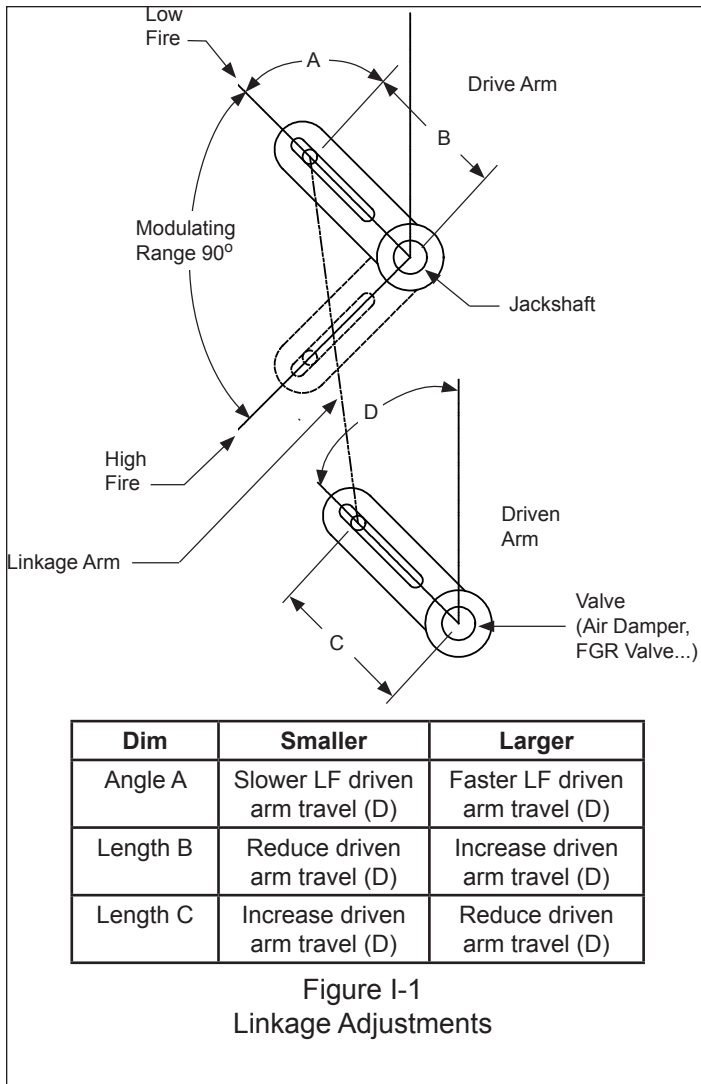

Figure I-1
- a. The linkage must provide the correct stroke of the valve, from low to high fire. Increasing the length of the drive crank arm (B) or decreasing the length of the driven crank arm (C) will increase the valve travel. To reduce valve travel, decrease B or increase C (Figure I-1).
g. If the contour has a sharp rise in the cam screw profile, trying to open the valve very quickly in the first few screws, the linkage should be readjusted to cause the air damper to open slower (make the jackshaft drive arm more parallel to the linkage rod). Likewise, the opposite contour can be corrected by speeding up the air damper drive (Figure I-1). The final cam screw profile should be close to the profile of the cam with no abrupt changes.